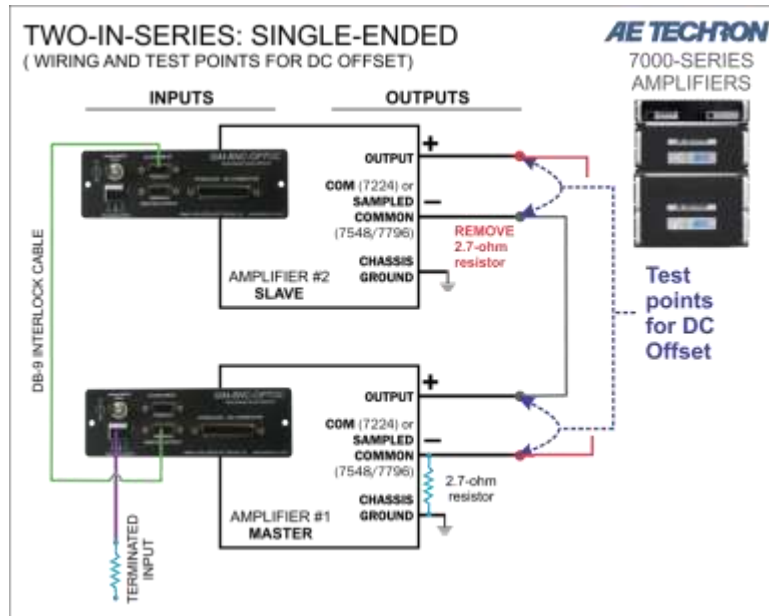

Figure 3.13 – Verifying DC Offset
6. Using a digital voltmeter set to DC, measure across each amplifier's back-panel output connector terminals (OUTPUT to COM or SAMPLED COMMON) to verify that the DC offset of each amplifier is less than 10 mVdc. See **Figure 3.13**. NOTE: If any amplifier's DC offset is greater than 10 mVdc, the amplifier may require servicing. Contact AE Techron Technical Support.